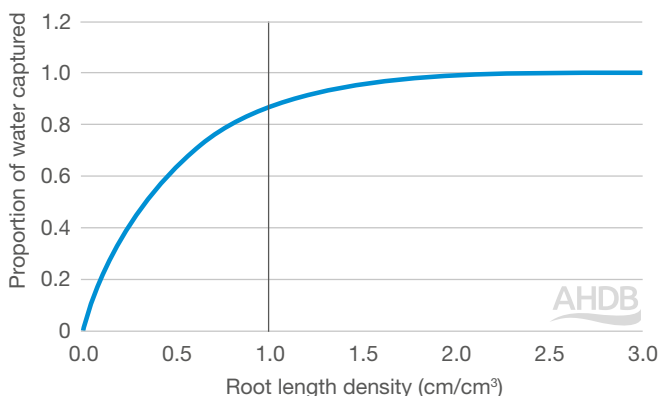

Figure 15. Effect of root length density on captured water
High uptake rates of less mobile nutrients, such as phosphorus (P), only occur when root length density exceeds 5 cm/cm3 of soil. Lower root length densities are adequate for potassium (K) uptake. Proportion of water uptake increases with higher root length densities (Figure 15) and about 1 cm/cm3 is required for an optimum uptake of nitrogen and water.